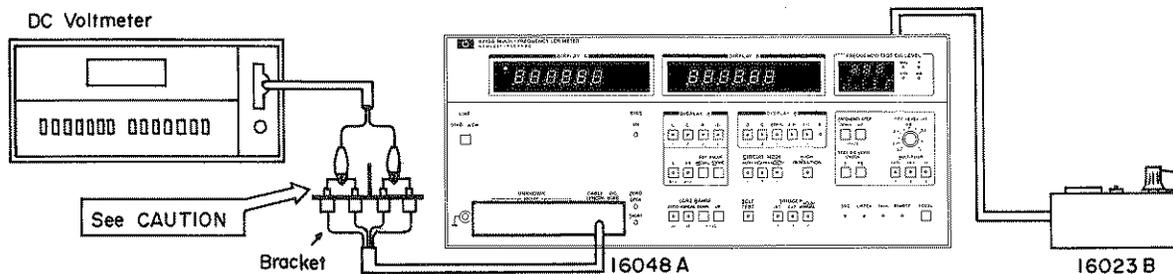

Figure 4-8. Option 002 Int DC Bias Supply Test Setup.
4. Connect 16048A Test Leads to dc voltmeter input (see Figure 4-8).